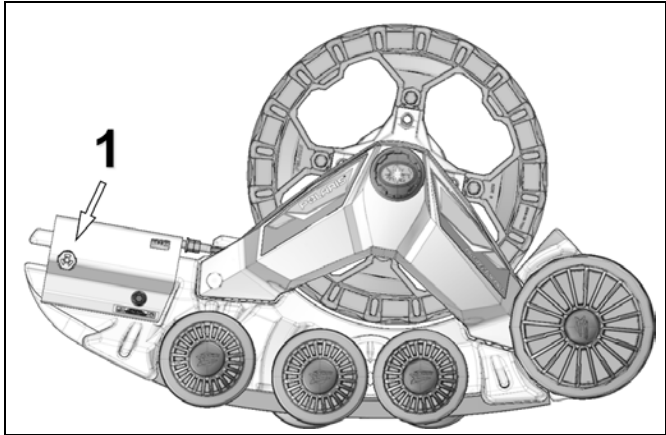

Figure 21
- Remove the two 202 mm wheels from the track tensioner. Refer to Figure 21.